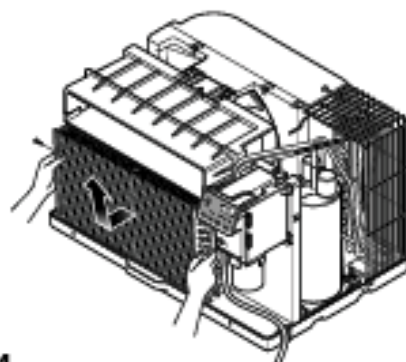

Figure 4
3. Remove the 2 screws which fasten the evaporator at the left side and the right side. (See Fig. 4)